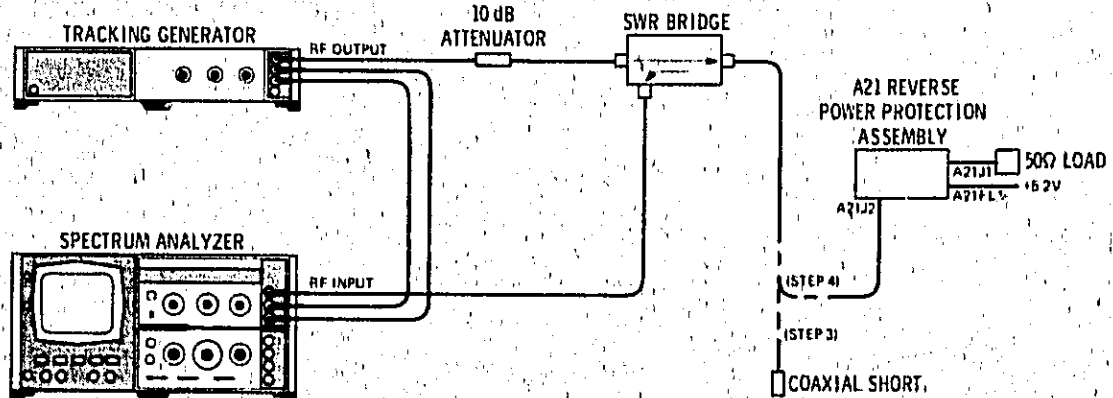

Figure 5-14. Output Impedance Adjustment Test Setup (Option 003)
3. Connect equipment as shown in Figure 5-14.